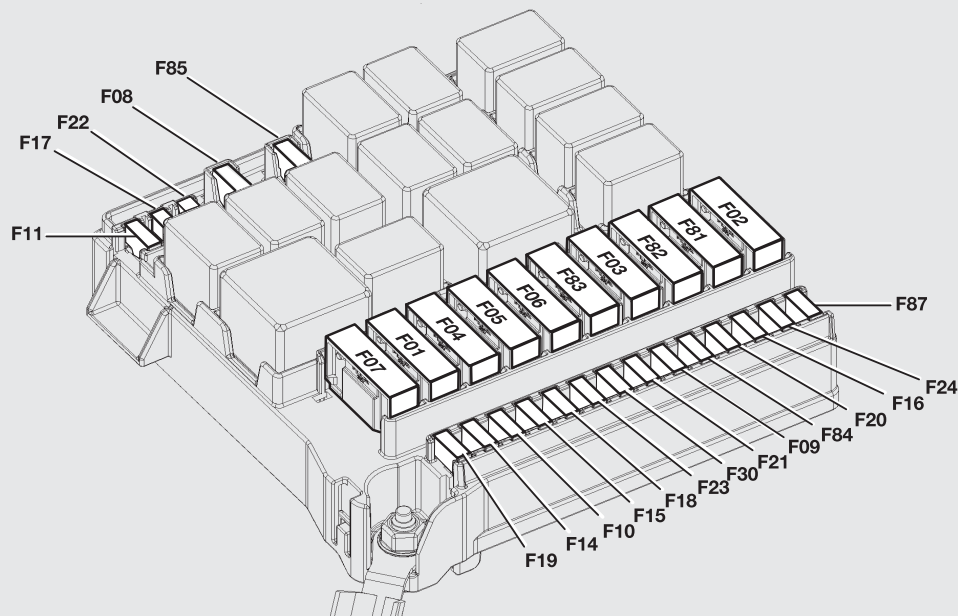

fig. 162
**PROTECTED DEVICE - fig. 162**